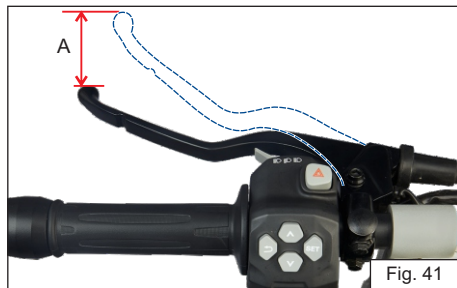

Fig. 41
- ◆ Measure the clutch free play (A) at the lever end as shown (ref. Fig 41).